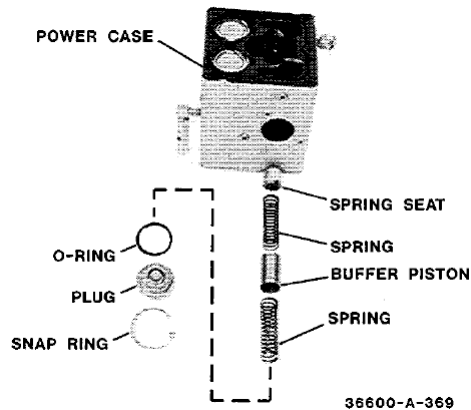

Figure 5-35. Compensation System
16. Put new O-ring on seal (Figure 5-35) and insert spring and plug into compensation cylinder in power case. Secure plug with snap ring.